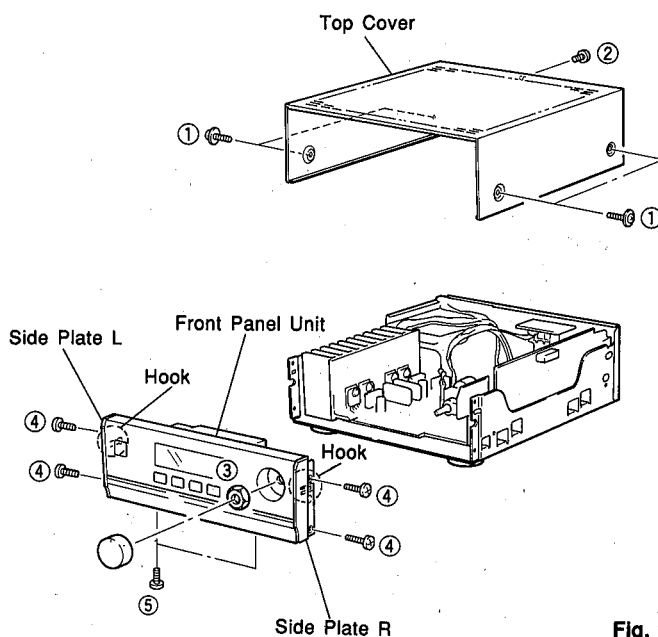

Fig. 1
Remove 4 screws (①) and 1 screw (②) in Fig. 1.
- b. Remove 1 nut (③) in Fig. 1.
- c. Remove 4 screws (④) and 2 screws (⑤) in Fig. 1.
- d. Remove 2 hooks and pull the Front Panel Unit in Fig. 1.